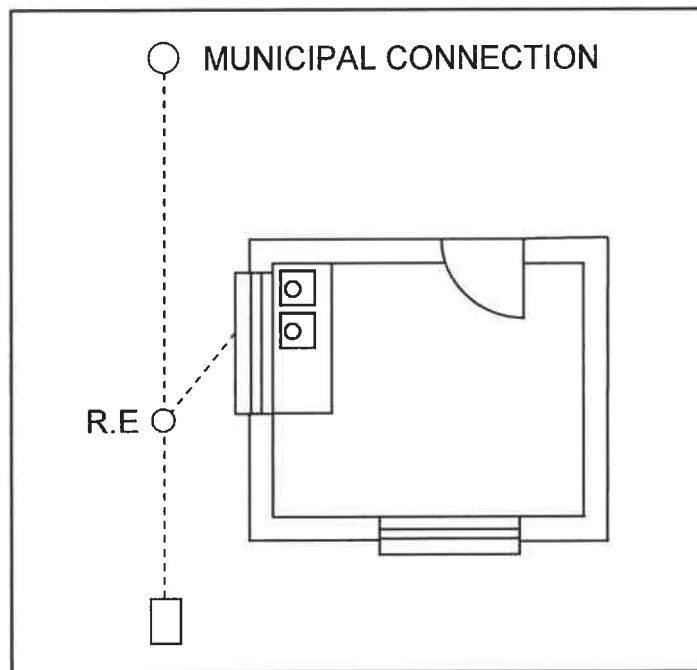

FIGURE 6.6
6.6 FIGURE 6.6 below shows the INCORRECTLY drawn sewerage plan of a dwelling.